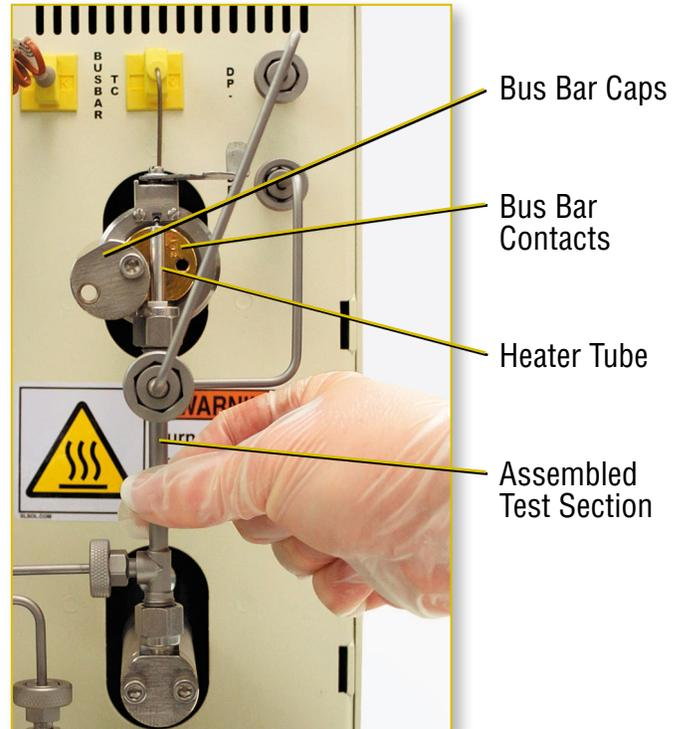

Figure 20 Inserting Test Section Installation
12. Install the assembled test section into the sample test area [Figure 20]. Place the assembled test section in the groove between the bus bar contacts and bus bar caps serial number side up. Insert both right hand retaining screws and loosely finger tighten.